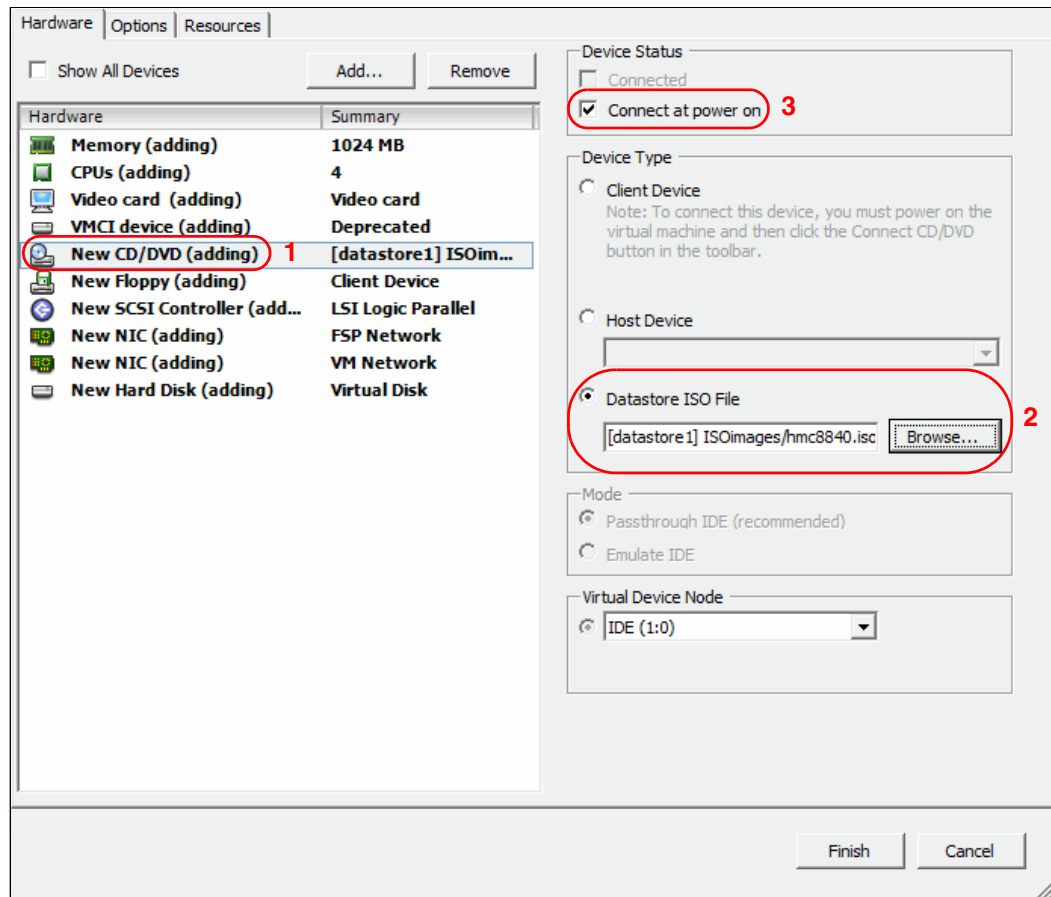

Figure 3-17 Choose an ISO image file
15. In the Virtual Machine Properties panel (Figure 3-17), select the **New CD/DVD** option in the left pane, and select the **Connect at power on** check box. Then, select the **Datastore ISO file** button and browse your directories to locate the HMC ISO image, which was previously uploaded on the VMware server. Click **Finish** to proceed.